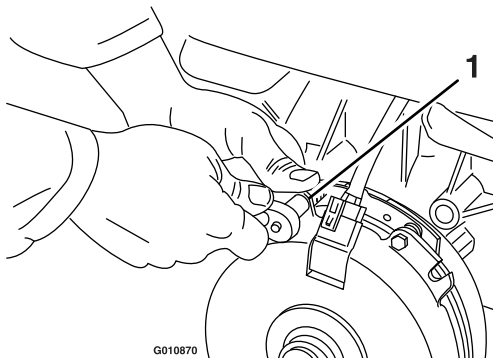

Figure 74
- A. Loosen both brake-mounting bolts 1/2 to 1 full turn as shown in Figure 74.